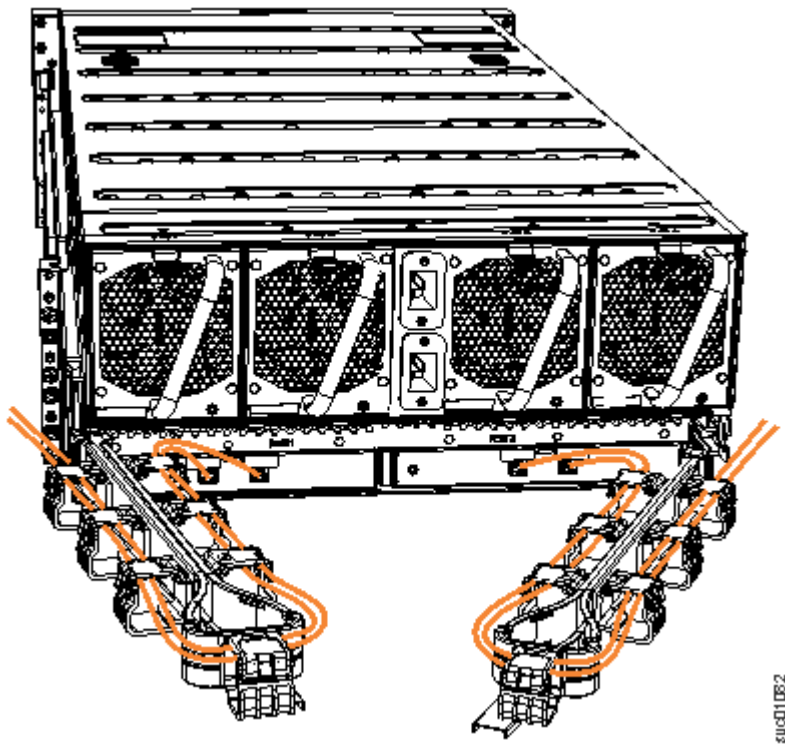

Figure 77. Example of SAS cables routed through the cable management arms
8. Route the SAS cables through the cable management arms, as shown in Figure 77 on page 74.